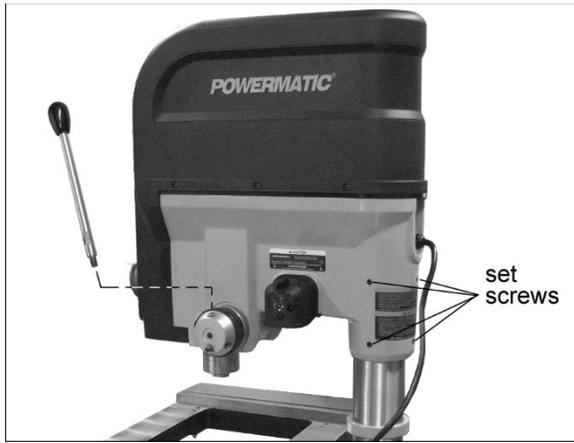

Figure 6-10
- Adjust head parallel to base, and tighten four (4) set screws (Figure 6-10).
2. Install three downfeed handles into hub on either side of drill head (Figure 6-10). Screw them in completely; use a wrench on the shaft flats to tighten.